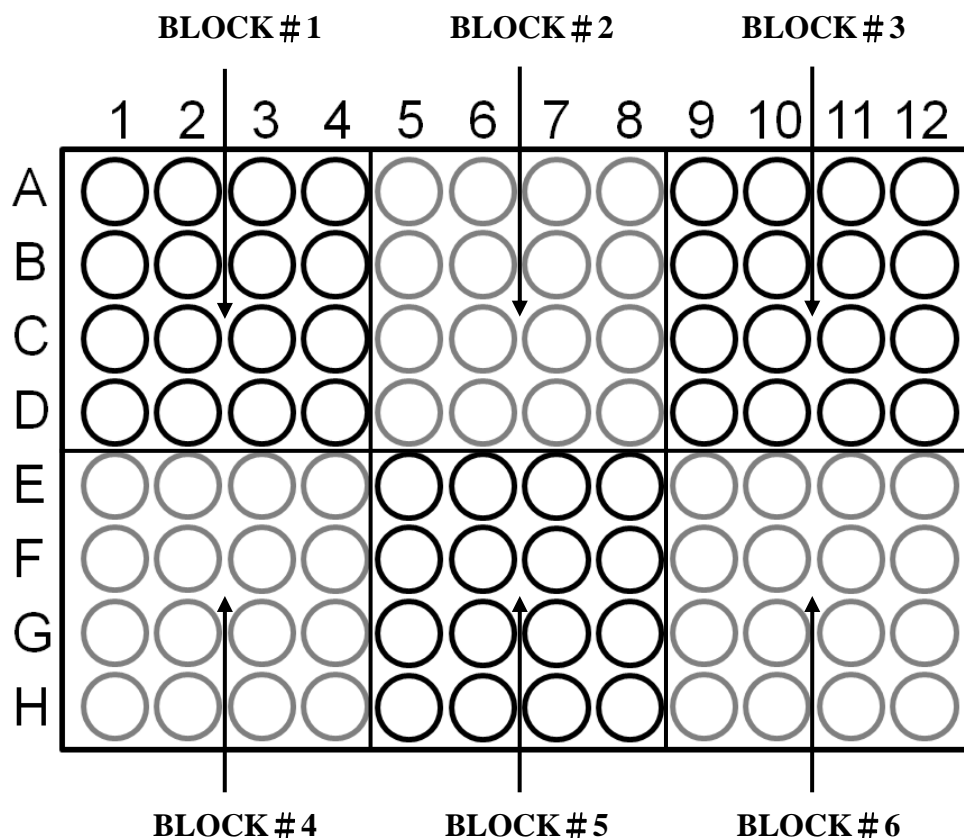

Figure 10. Block layout of 96-well model
2. The temperatures of all BLOCK offset are based on BLOCK # 1. If press **F2:AUTO** to set gradient temperature, each BLOCK will add 4°C automatically based on the preceding BLOCK. Prior to press **F3:AVG.** users need to enter BLOCK # 6 setting, and the screen will show the calculated temperature gradient from BLOCK # 1 to BLOCK # 6 as show in Figure 10. This reflects the variation of the temperature from the BLOCK # 1 (coolest) to the BLOCK # 6 (hottest).